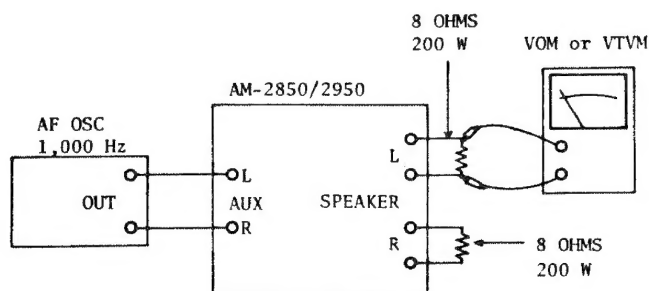

Fig. 9 AM-2850/2950 Level Meter Indication Adjustment Instrument Connection.
3.3 Adjusting the Level Meter Indication (Refer to Figs. 9, 10, 11)
1. Connect an AF oscillator to the AUX jacks on the rear panel of the each model as illustrated in Fig. 9.